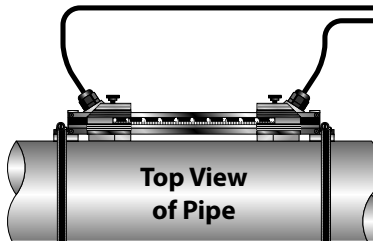

Figure 22: Mounting track installation
4. Place the first transducer in between the mounting rails near the zero point on the scale. Slide the clamp over the transducer. Adjust the clamp and transducer so the notch in the clamp aligns with the zero on the scale. See *Figure 22*.